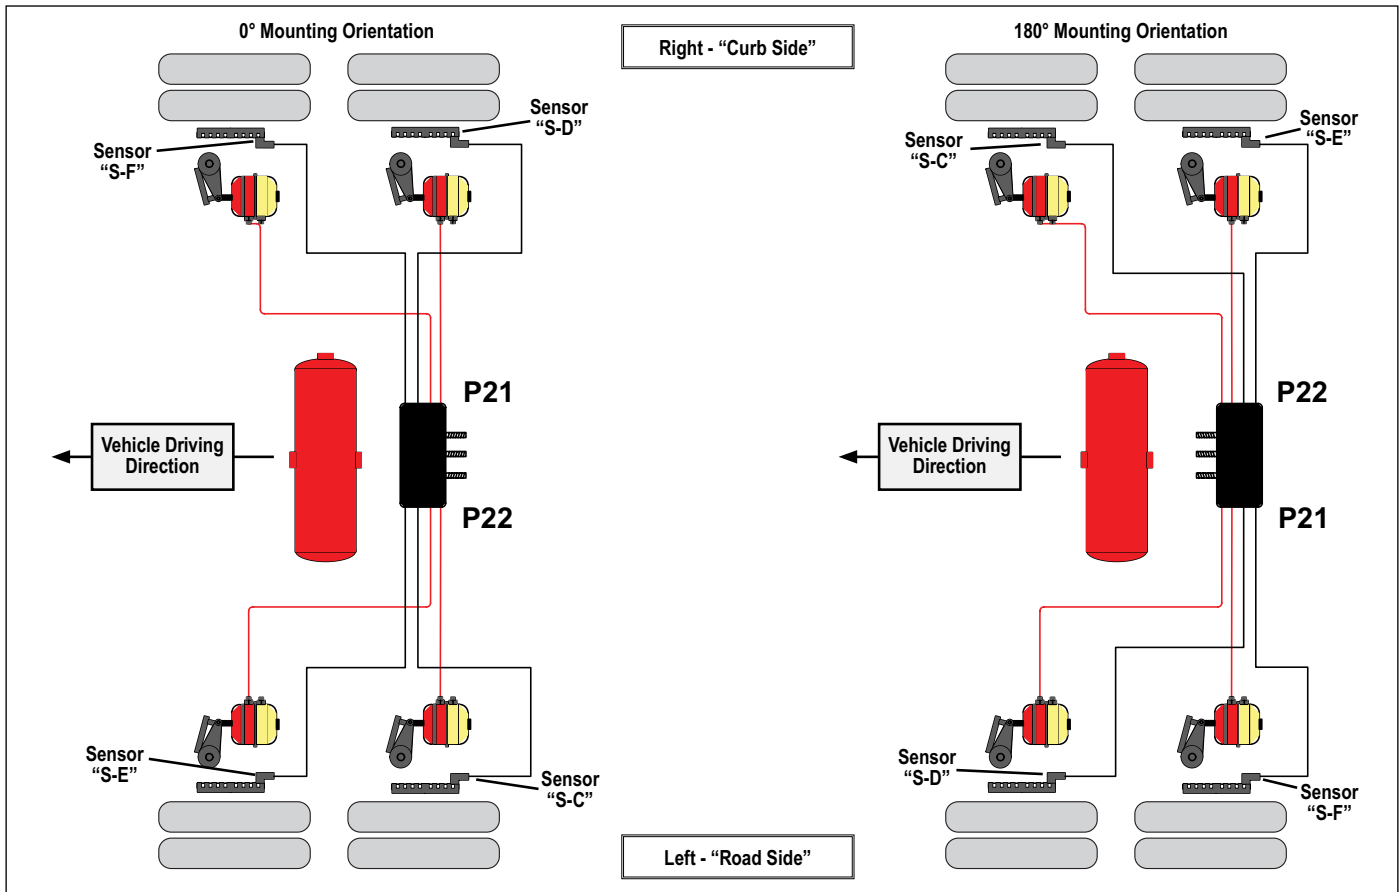

FIGURE 19 - WHEEL SPEED SENSOR INSTALLATION
Note: The wheel speed sensors must follow the orientation of the module as shown in Figure 19 for fixed axle trailers. Where a lift axle is present, and sensors are to be installed on that axle, secondary sensors SE and SF must be used for the lift axle.
- If the wheel sensor location does not match the orientation of the Bendix® TABS-6™ Adv MC module shown in Figure 19, a Diagnostic Trouble Code (DTC) will be generated and the ABS indicator lamp will be illuminated.